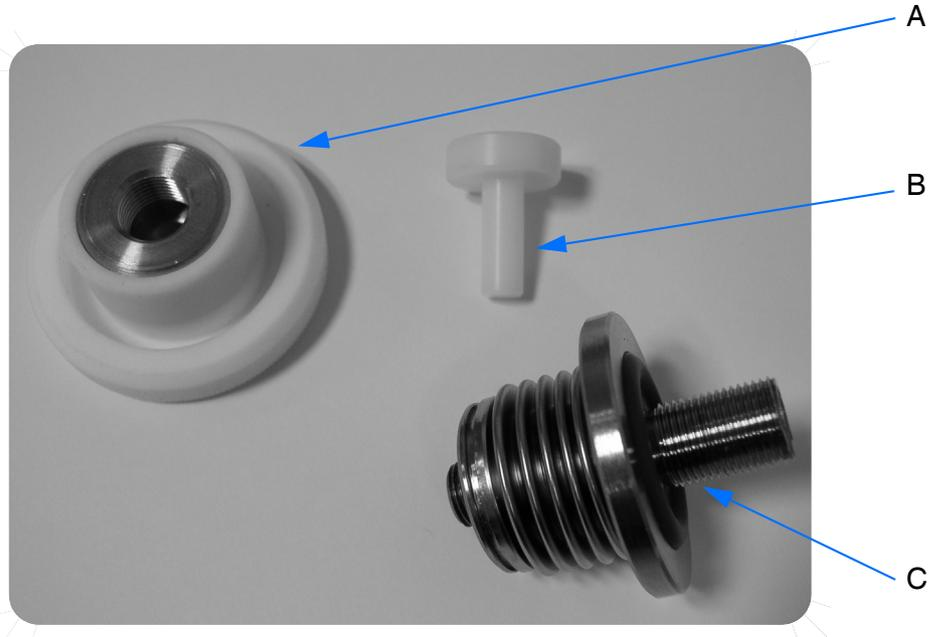

Figure 31: Bellow gasket components
- 9 Screw the bellows (C in figure 31) onto the detector as displayed in figure 30.
- 4 Repeat this procedure until the detector dewar has been filled to maximum. (As a rule of thumb for the standard MCT detector: the maximum dewar capacity is about the quantity of 3 funnel fillings. Note that the first 3 funnel fillings will evaporate almost completely.) Avoid overfilling as the liquid would then flow out of the filling port. Take off the funnel and insert the plug (B in figure 31).